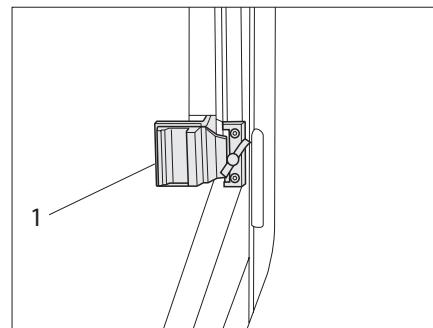

Fig. 23 Sliding window with slide lock
- ▶ Turn the locking knob (Fig. 23,1) into the vertical position.
- ▶ Press handle (Fig. 23,2) and push it forward or backward at the same time.